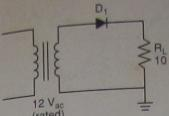

FIGURE 3.52
- Determine the peak load voltage for the circuit shown in Figure 3.52.
- Determine the peak load current for the circuit shown in Figure 3.52.
- Determine the average (dc) load voltage for the circuit shown in Figure 3.52.
- Assume that the diode in Figure 3.52 is reversed. Determine the new values of $V_{L(\text{pk})}$, V_{ave} , and I_{ave} for the circuit.